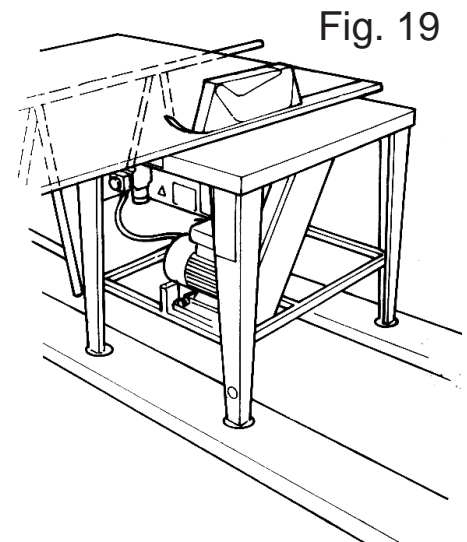

Fig. 19
6.6 STABILITY OF THE MACHINE (Fig 19)